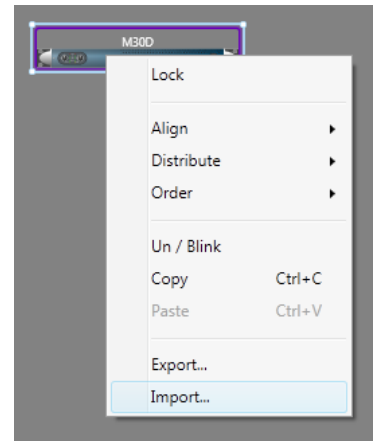

FIGURE 21: Left click to select (the blue rectangle appears) and right click for import.
3. If you already have a device preset (.paw) you can import it by right clicking on the device (see FIGURE 21).